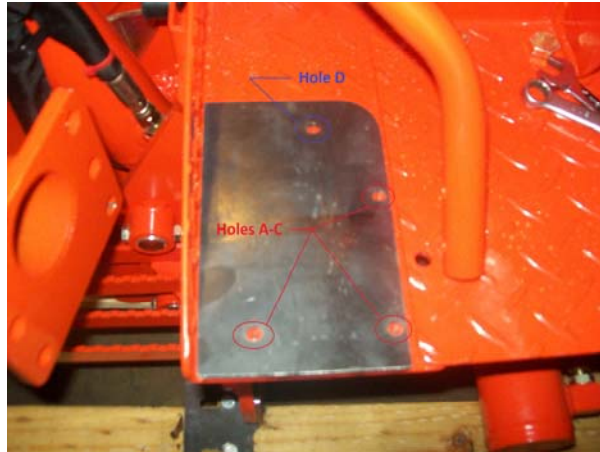

Figure 6 Valve Mount Pattern on LHS Floorboard of Operator Platform.
- Locate the Thumb Control Valve Mounting Template. Lay the Template on the Floorboard of the Operator Platform as Shown in Figure 6.